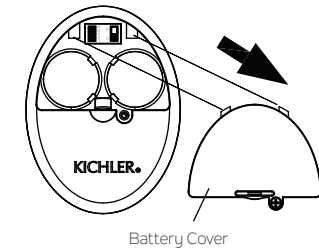

Fig. 25
**Step 2.** Using a screwdriver, remove the battery cover from the handset and save the screw for later use. (Fig. 25)